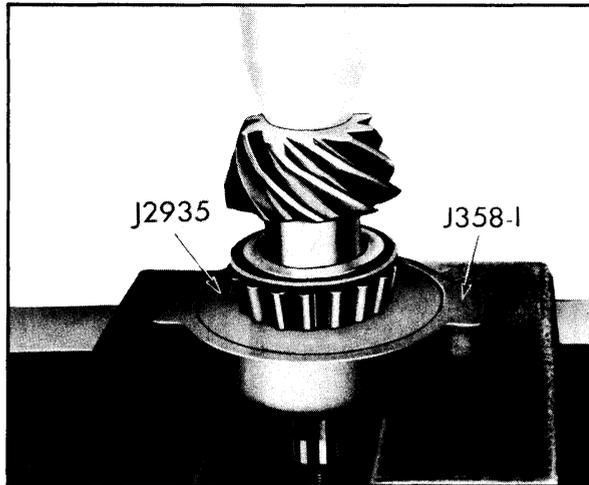

Fig. 6-27 Installing Bearing Race
4. Press the rear bearing inner race and roller assembly firmly in place against shoulder on pinion shaft. (See Fig. 6-27)